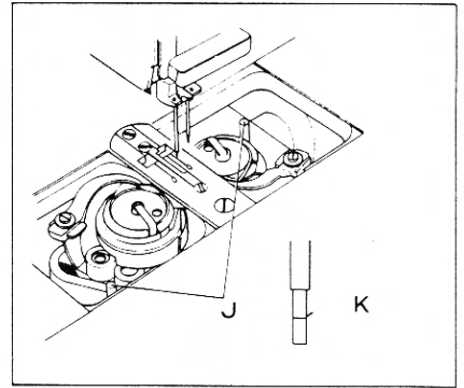

Figure 5
5. Lubricating the Rotary Hook (Figure 5)